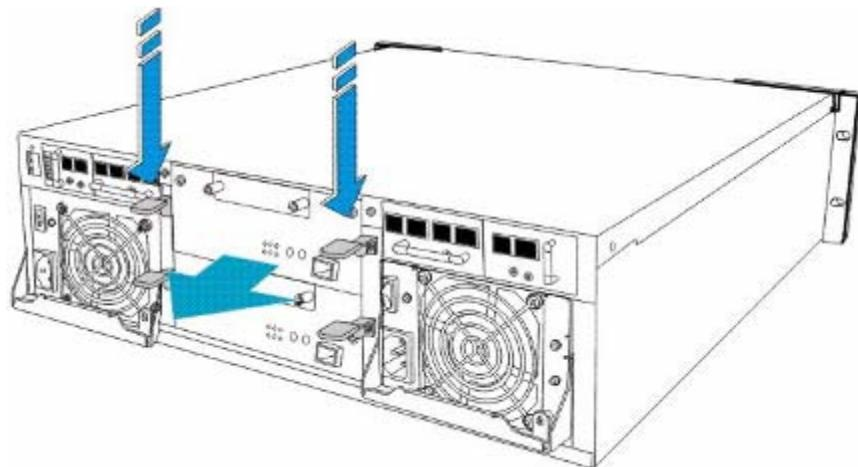

Figure 5-2: Pressing down the Ejection Levels
Step 3. **Remove the controller module** by pressing down the two (2) levers at the back of the controller module. The controller module will automatically be eased out of the controller module bay. (See *Figure 5-2*)